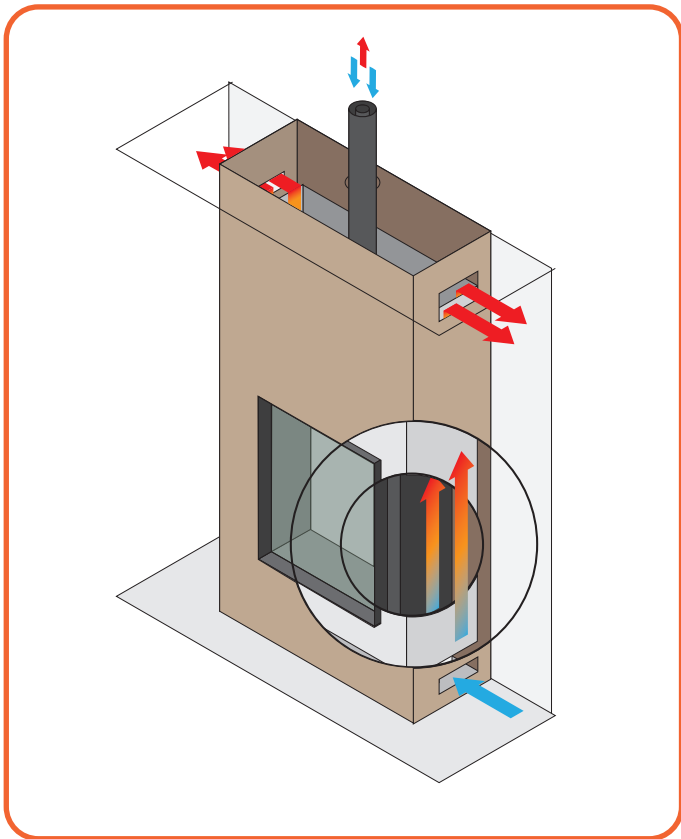
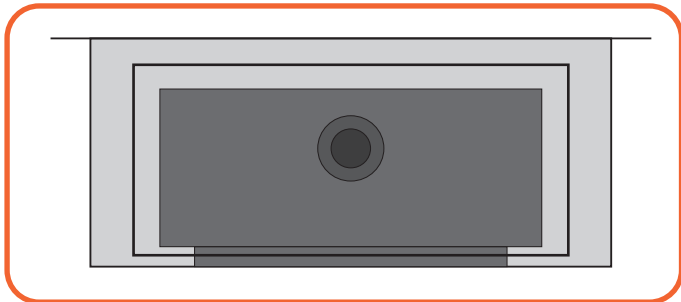

Figure 6.5 - Combustible material enclosure
Figure 6.6 - Combustible material enclosure top view
6.4.4 Assembly regulations for combustible materials (Figure 6.5 and Figure 6.6)